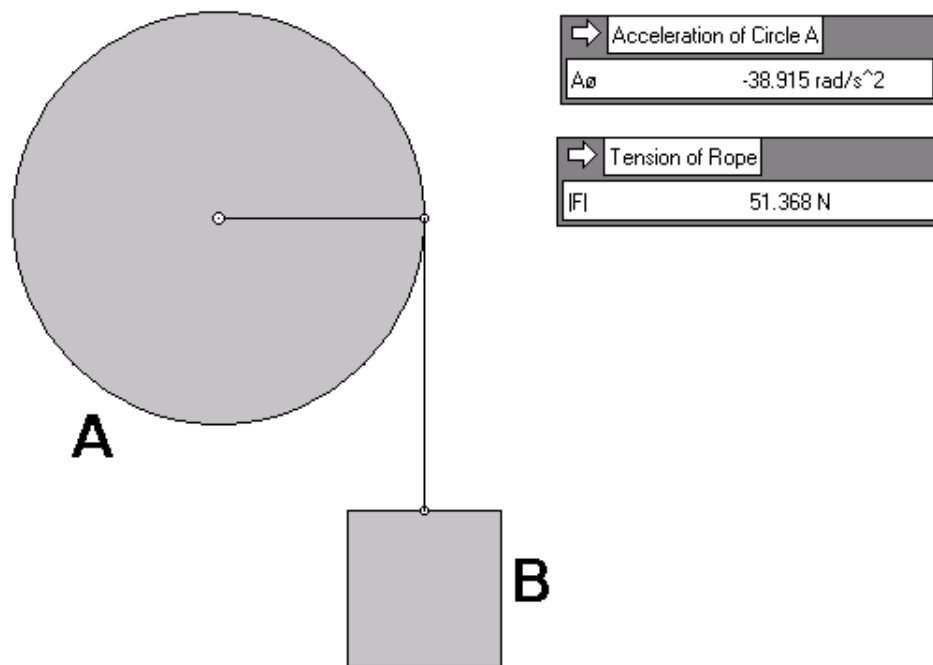

Figure 5
9. Now, the model is ready for simulation. Run the simulation to get the results similar to Figure 5.